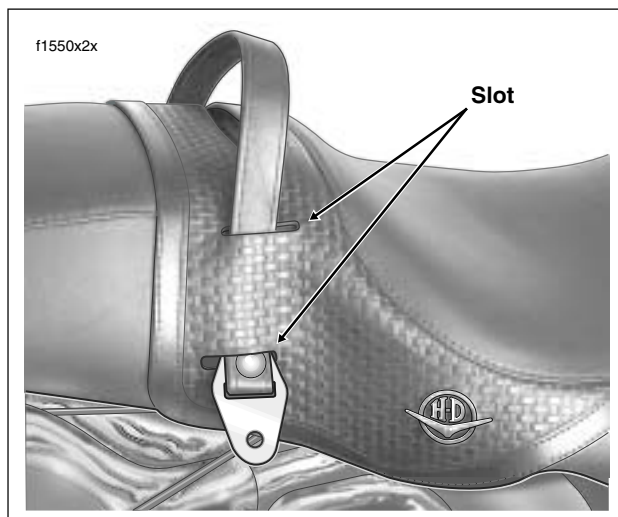

Figure 2-128. Route Passenger Seat Strap Through Slots in Seat - FLHRC
3. Using slots in seat, carefully pull passenger seat strap from seat. See Figure 2-128.
4. Using slots in seat, route free end of passenger seat strap to right side of vehicle. See Figure 2-128.